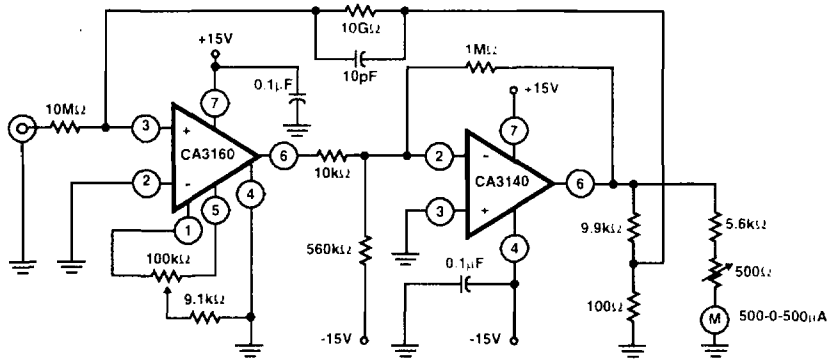

FIGURE 12. CURRENT-TO-VOLTAGE CONVERTER TO PROVIDE A PICOAMMETER WITH $\pm 3\text{pA}$ FULL SCALE DEFLECTION
Figure 12 shows a single supply sample-and-hold system using a CA3160 to provide a high input impedance and an input voltage range of 0V to 10V. The output from the input buffer integrator network is coupled to a CA3080A. The CA3080A functions as a strobeable current source for the CA3140 output integrator and storage capacitor. The CA3140 was chosen because of its low output impedance and constant gain-bandwidth product. Pulse "droop" during the hold interval can be reduced to zero by adjusting the 100kΩ bias-voltage potentiometer on the positive input of the CA3140. This zero adjustment sets the CA3080A output voltage at its zero current position. In this sample-and-hold circuit it is essential that the amplifier bias current be reduced to zero to minimize output signal current during the hold mode. Even with 320mV at the amplifier bias circuit terminal (5) at least 1100pA of output current will be available.